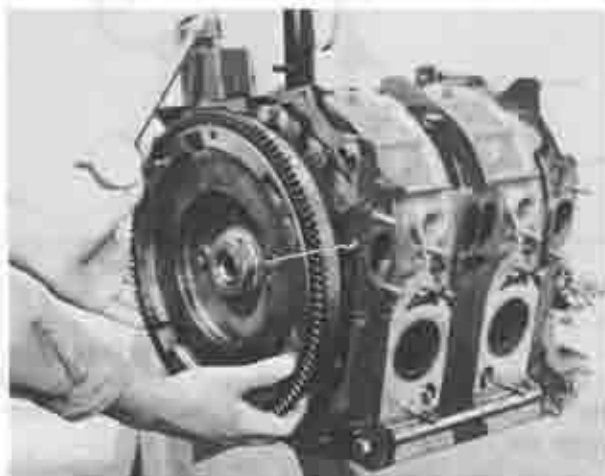

Fig. 1-83 Checking eccentric shaft end play
13. To check the eccentric shaft end play, position a dial indicator on the rear housing so as to contact the feeler with the flywheel or the counter weight as shown in Fig. 1-83.